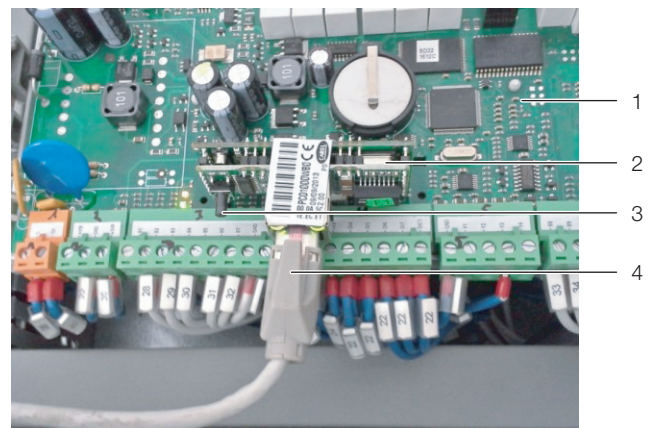

Fig. 32: pCO Web card
- Press the Reset button (fig. 32, item 3), if necessary with the assistance of a second person, and keep it held down for around 20 seconds whilst the card is booting up, until the status LED flashes three times slowly.